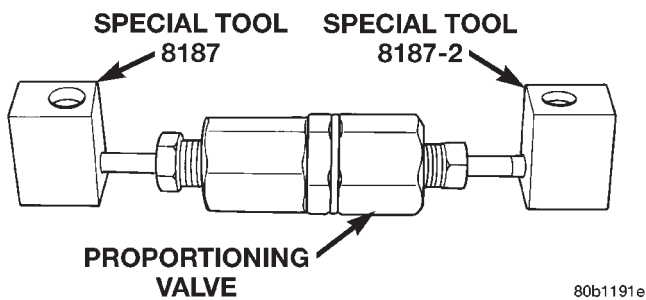

Fig. 19 Pressure Test Fitting Installed In Proportioning Valve
(4) Install Pressure Test Fitting, Special Tool 8187 in the inlet port of the proportioning valve (Fig. 19). Install Pressure Test Fitting, Special Tool 8187-2 in the outlet port of the proportioning valve (Fig. 19). Tighten tube nuts to a torque of 17 N·m (145 in. lbs.)